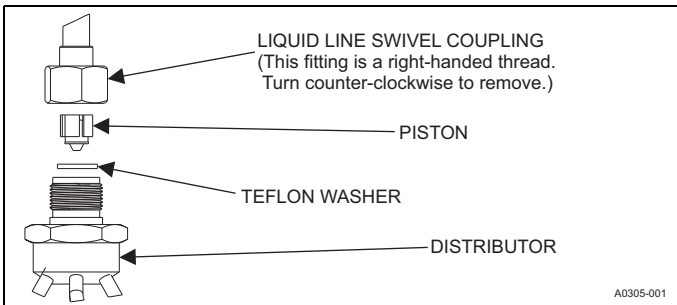

FIGURE 5: Piston Installation
5. Install required size piston into the distributor. Refer to supplied Tabular Data Sheet for specific piston size and indoor coil match up. See Figure 5.
6. Verify that the teflon washer is still in place in the distributor opening. See Figure 5.